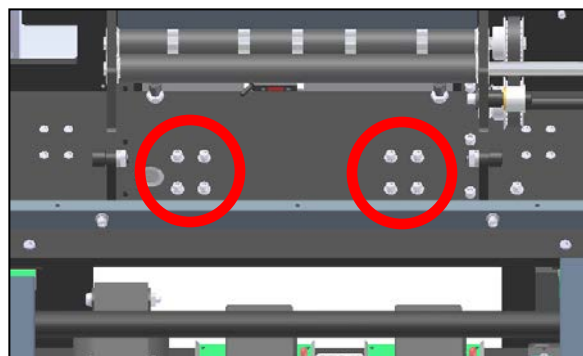

Figure 3-338. Heater Block Mounting Screws
5. Locate the eight heater block mounting screws and remove. Once the screws are out, the heater block will fall down until the wires attached to it are tight. Catch the heater block, and slowly move down until the wires are holding it (Figure 3-338).